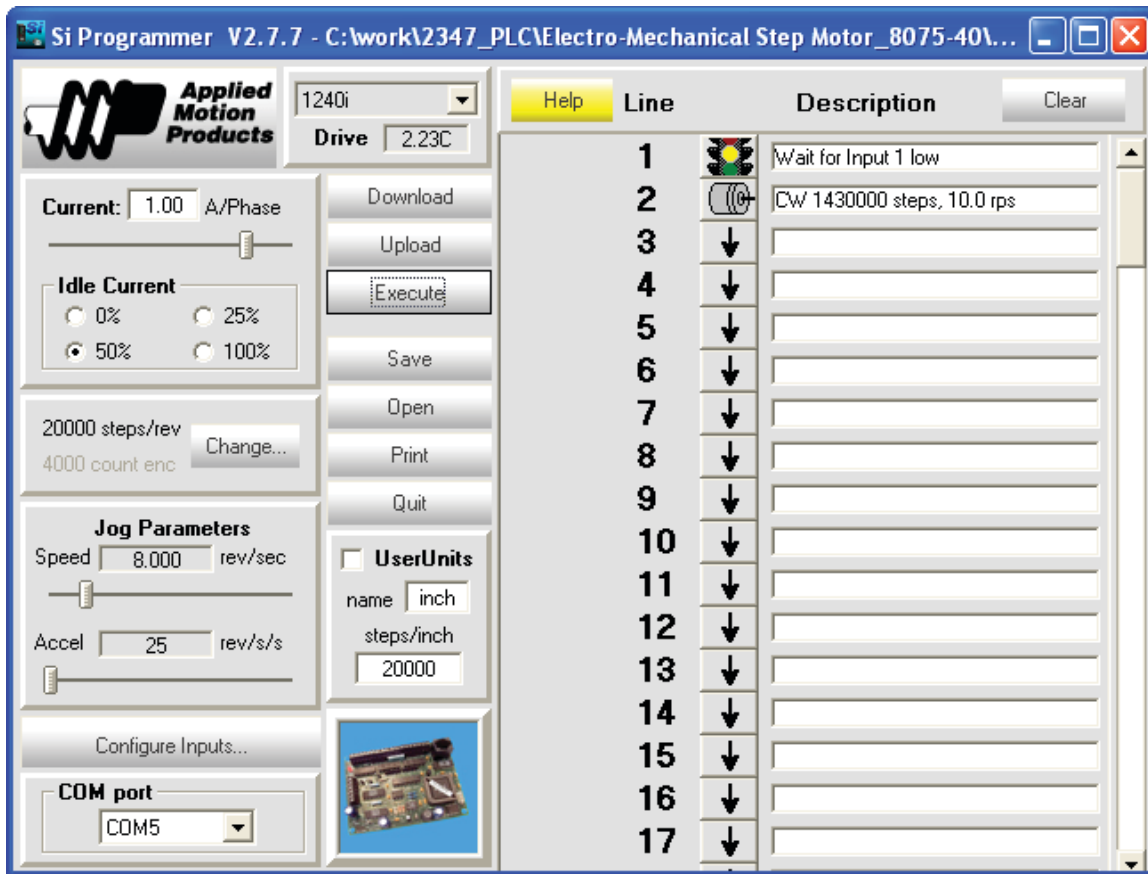

Figure 10. Job Sheet 1 Stepper Motor Drive program.
9. In the Si Programmer Program Window, enter a two-line program (Figure 10) that will: